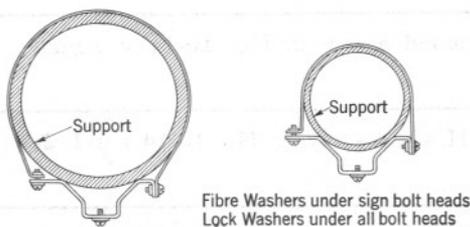

Fig. 1 — 188-type Sign Bracket
- Flanged type signs may be fastened to poles or posts with brackets (see Figs. 1 and 2). Table A lists bracket size and type.